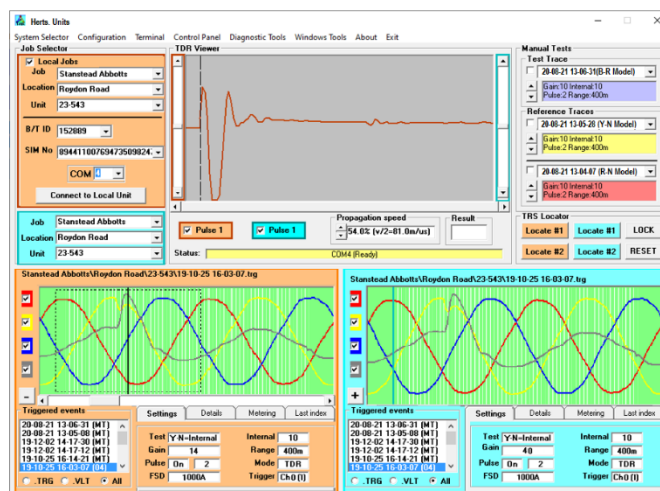

Figure 3.3: Software Main Display
The device is controlled from the T-P2X Master software which provides the display shown in figure 3.3. A detailed explanation of which is made in section 7.2.
The T-P22 has three different record types. In each case the file name is in the format: YYYY-MM-DD-HH-MM-SS (see “Triggered events” in the bottom left of figure 3.3) i.e. the date and time at which the record was captured, however, the name extension is dependent on the type of record.
This record type is generated from a manual trigger and is a snapshot of the voltage at the time of the trigger and contains 64 TDR pulses. They are listed and viewed in the events window and are labelled in the events list as (MT) also in “Triggered events” in figure 3.3.
These are generated from the test button and capture a single TDR waveform and are viewed in the TDR viewer and the Manual Tests window (Top centre and right figure 3.3). Up to three waveforms can be selected at any one time and can be switched on and off via the check box on the left-hand side of the window. This allows comparison of all three Phase-to-Earth or Phase-to-Phase waveforms simultaneously for comparison purposes.
These are the records that are automatically captured when the T-P22 senses a change in the voltage waveform beyond the configured threshold. The trigger point should be the twelfth of the sixty-four TDR pulses in the events windows (bottom figure 3.3), ensuring the operator has twelve healthy waveforms for comparison with those after the trigger point. They are listed in the “Triggered events” window and have an associated number (e.g. (04) in figure 3.3) which is the memory cell it was stored in. These are numbered from 01 through to 20 and the oldest are overwritten as the number of records recovered increases.